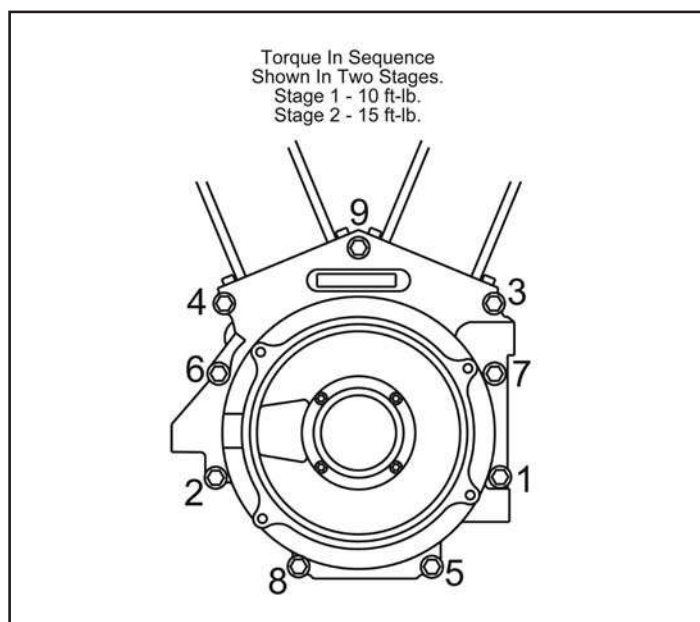

Figure 1
- When assembling crankcases that have been bored to accept big bore cylinders, use S&S torque specifications for crankcase bolts. See Figure 1.